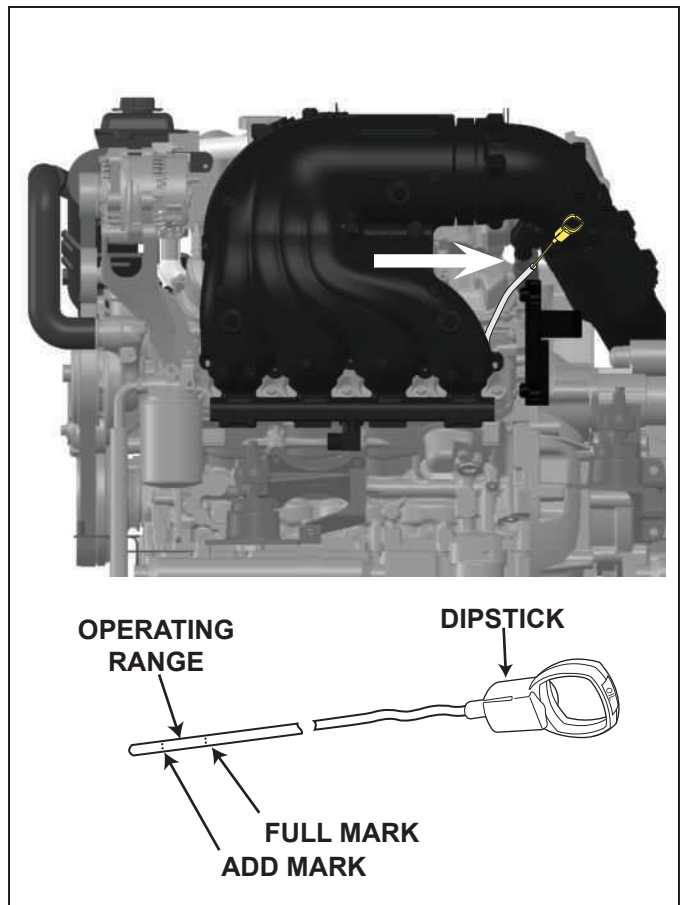

Figure 11-1 Engine Oil Dipstick
3. In order to obtain an accurate reading, wait two minutes for the oil to stabilize on the dipstick. Remove the dipstick and observe the oil level. The oil level must be between the "FULL" and "ADD" marks. If the oil level is below the "ADD" mark, add specified oil to bring the level up to, but not over, the "FULL" mark on the dipstick. If the oil level is above the "FULL" mark on the dipstick, remove the excess oil. (Figure 11-1)